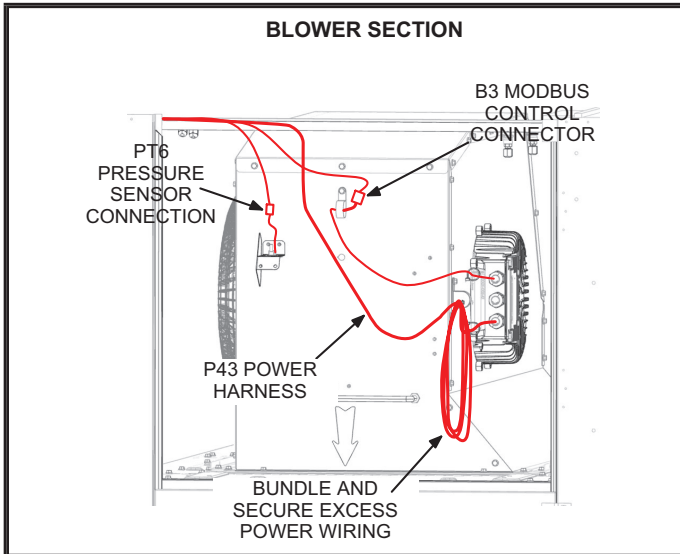
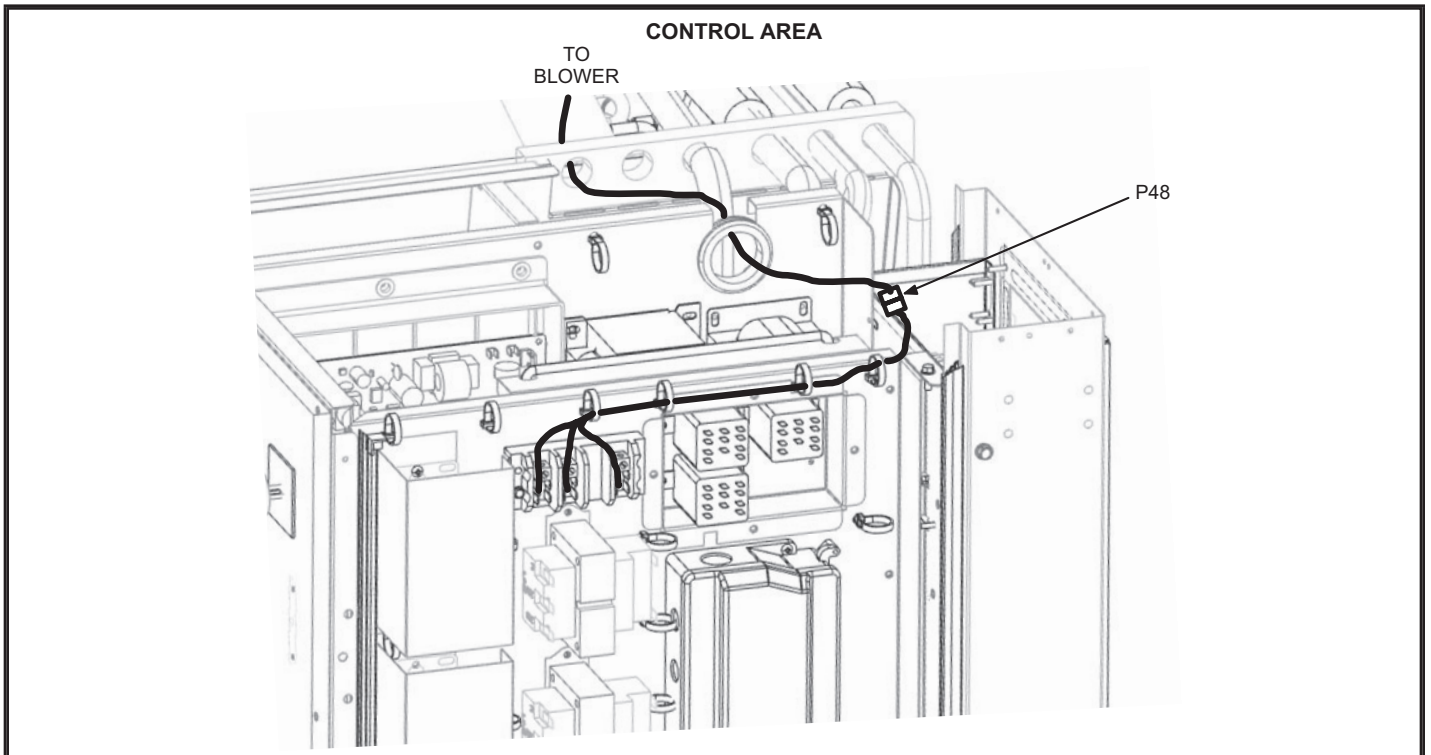

FIGURE 2
FIGURE 4
- 3 - Disconnect B3 Modbus connection and PT6 connection in the blower section. See FIGURE 2.
- 4 - Disconnect P48 in the controls area. See FIGURE 4.
- 13 - Connect P48, B3 Modbus, and PT6 connections as shown in FIGURE 2 and FIGURE 4.